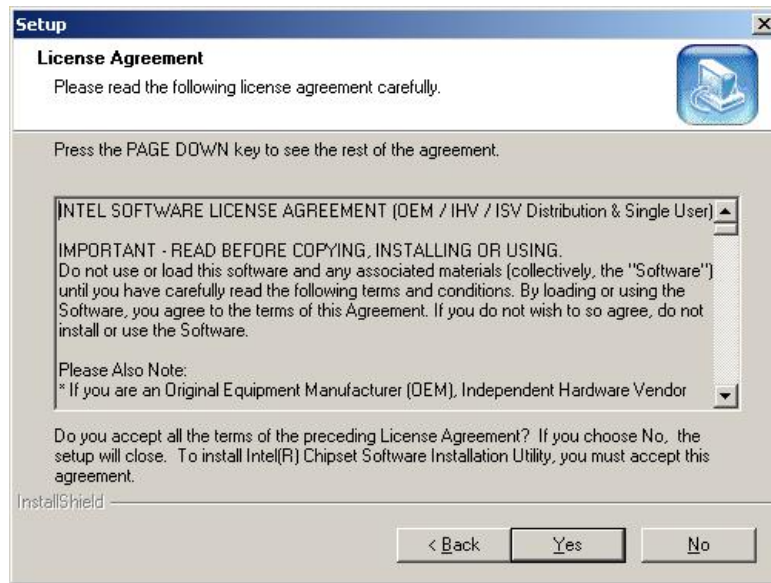

Figure 6-3: License Agreement
Step 4: Click "NEXT" and the license agreement shown in Figure 6-3 appears.